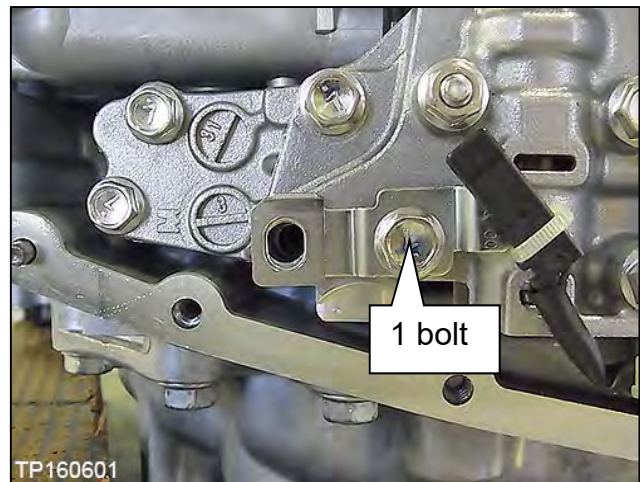

Figure 181
147. Install the CVT fluid temperature sensor bracket to the valve body with one (1) bolt (Figure 181).